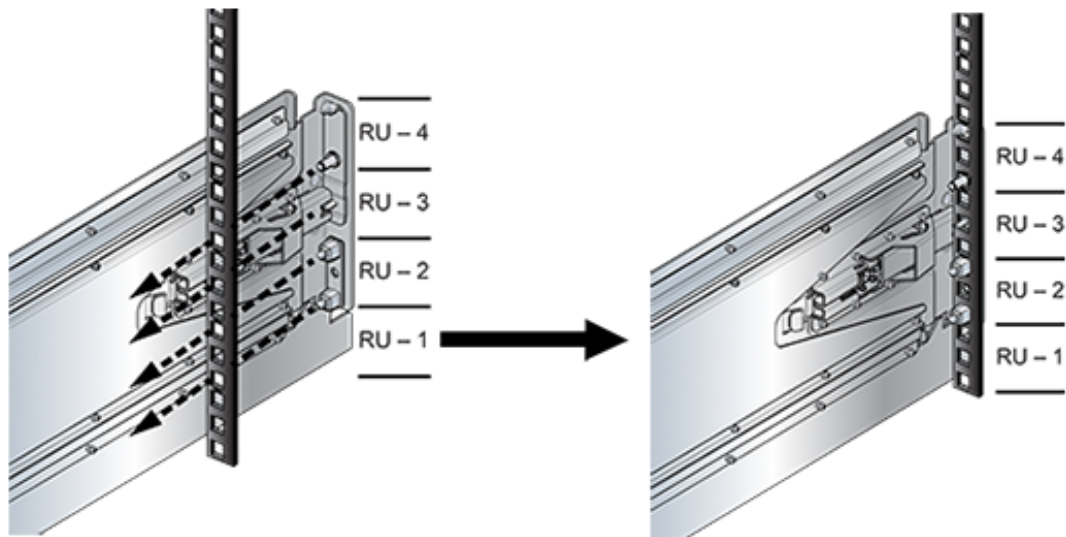

Figure 12: Seating the Left Shelf
5. Attach the back-side of the shelf into the rear shelf by gliding the slide-end such that the rack plugs (if present) and guide pins are inserted into the rack post holes (Figure 12: Seating the Left Shelf).